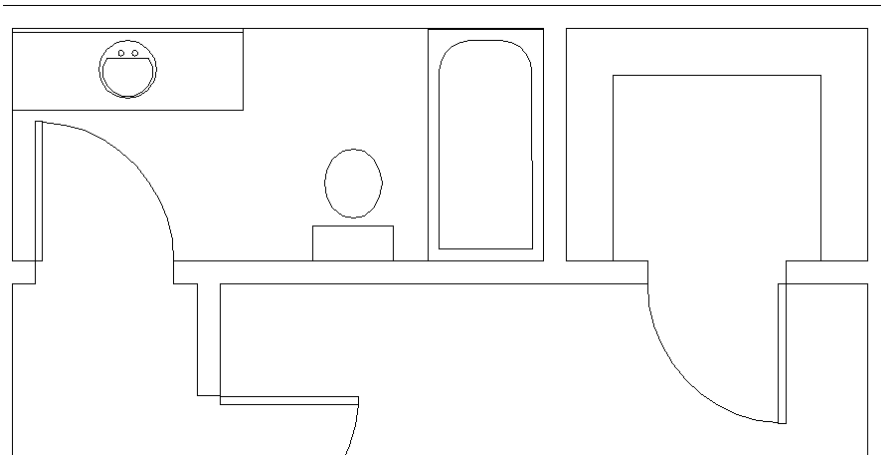

Figure 4-30: The completed drawing.
13. Save your drawing. It should look like Figure 4-30.